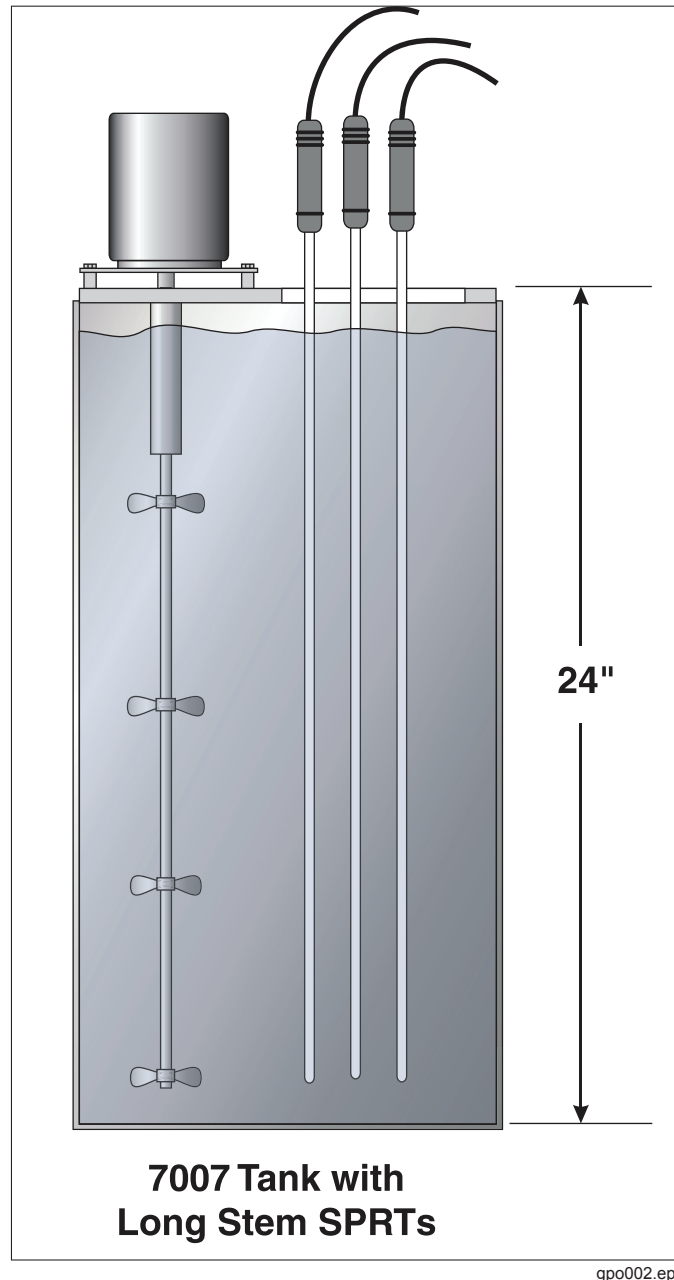

Figure 3. Liquid Bath Installation
- Figure 3. Liquid Bath Installation